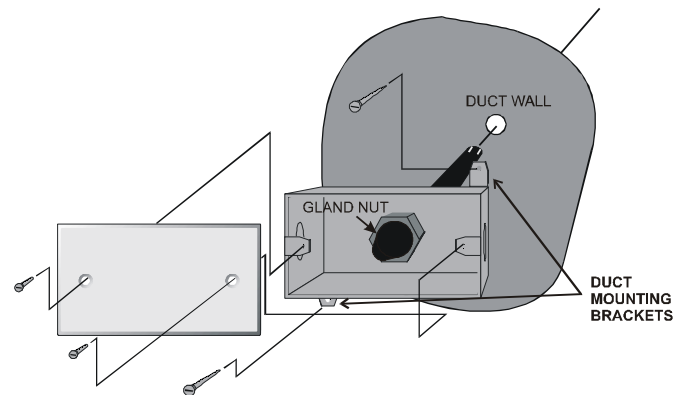

Figure 1 - Humidity Sensor Exploded View
2. Bolt the sensor enclosure against the outside of the duct wall so that the sensor element fits through the hole and into the duct. The enclosure may be mounted horizontally (as shown in *Figure 1*) or vertically. The screws should be tight enough for the foam gasket around the bottom of the sensor to form an airtight seal between the hole in the duct wall and the outside air.
Once the duct sensor is mounted and the sensor and board wiring is complete, check the gland nut that secures the sensor tube and tighten it if necessary (see Figure 1 for the location of the gland nut). Attach the cover plate (with the foam gasket included) to the sensor enclosure using the screws provided. Tighten all conduit connections, and cap all unused holes in the sensor enclosure.